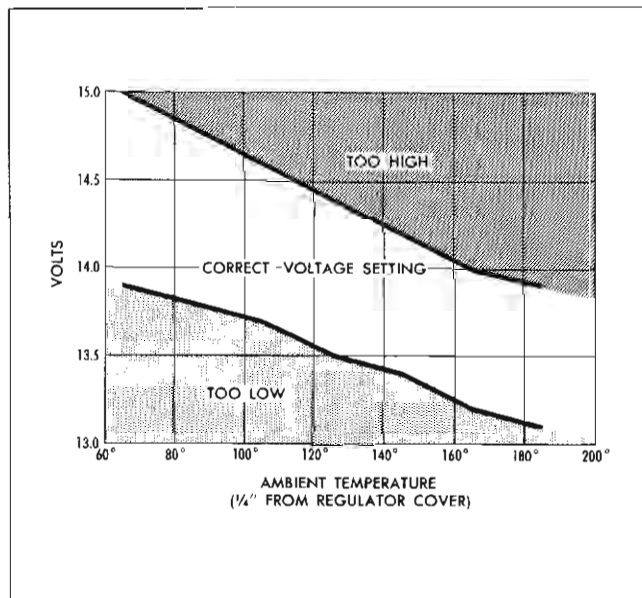

Fig. 11-31 Temperature Correction Chart
The voltage at which the regulator operates varies with changes in regulator ambient temperatures (Fig. 11-31). The ambient temperature is the temperature of the air measured  $\frac{1}{4}$  of an inch from the regulator cover.
d. Bring engine speed up to 2500 rpm (approximately 6000 alternator rpm) and note the voltage setting (refer to Fig. 11-31). The regulator should be operating on the upper or shorting contacts. If it will not operate on the upper contacts, the battery is in an extreme state of discharge, and must be at least partially re-charged before proceeding. The methods of identifying upper or lower contact operation is covered in Step 9.
9. After making the voltage setting while operating on the upper set of contacts, check the voltage setting while operating on the lower set of contacts as follows: Slowly increase the resistance of the variable resistor with the engine operating at 2500 rpm (approximately 6000 alternator rpm) until the regulator begins to operate on the lower set of contacts. Then note the voltage reading, and refer to Fig. 11-31. **NOTE:** If turning the variable resistor does not cause the regulator to operate on the lower set of contacts, return variable resistor to the "no resistance" position, turn the carbon pile to slightly load the battery, and then adjust the variable resistor to cause the regulator to operate on the lower set of contacts. Usually, turning on the vehicle headlights can substitute for the carbon pile. The most desirable method for determining that the regulator is operating on the lower set of contacts
The desired voltage regulator setting is that which keeps the battery in a satisfactory state of charge without causing excessive water usage (as evidenced by water consumption exceeding one ounce per cell each 1000 miles). In order to obtain the desired setting, tailor the voltage regulator setting. To properly tailor voltage, refer to Fig. 11-31 and use a magnetic thermometer to measure regulator temperature. If magnetic thermometer is not available, a regular thermometer should be held with bulb  $\frac{1}{4}$ " from regulator cover.